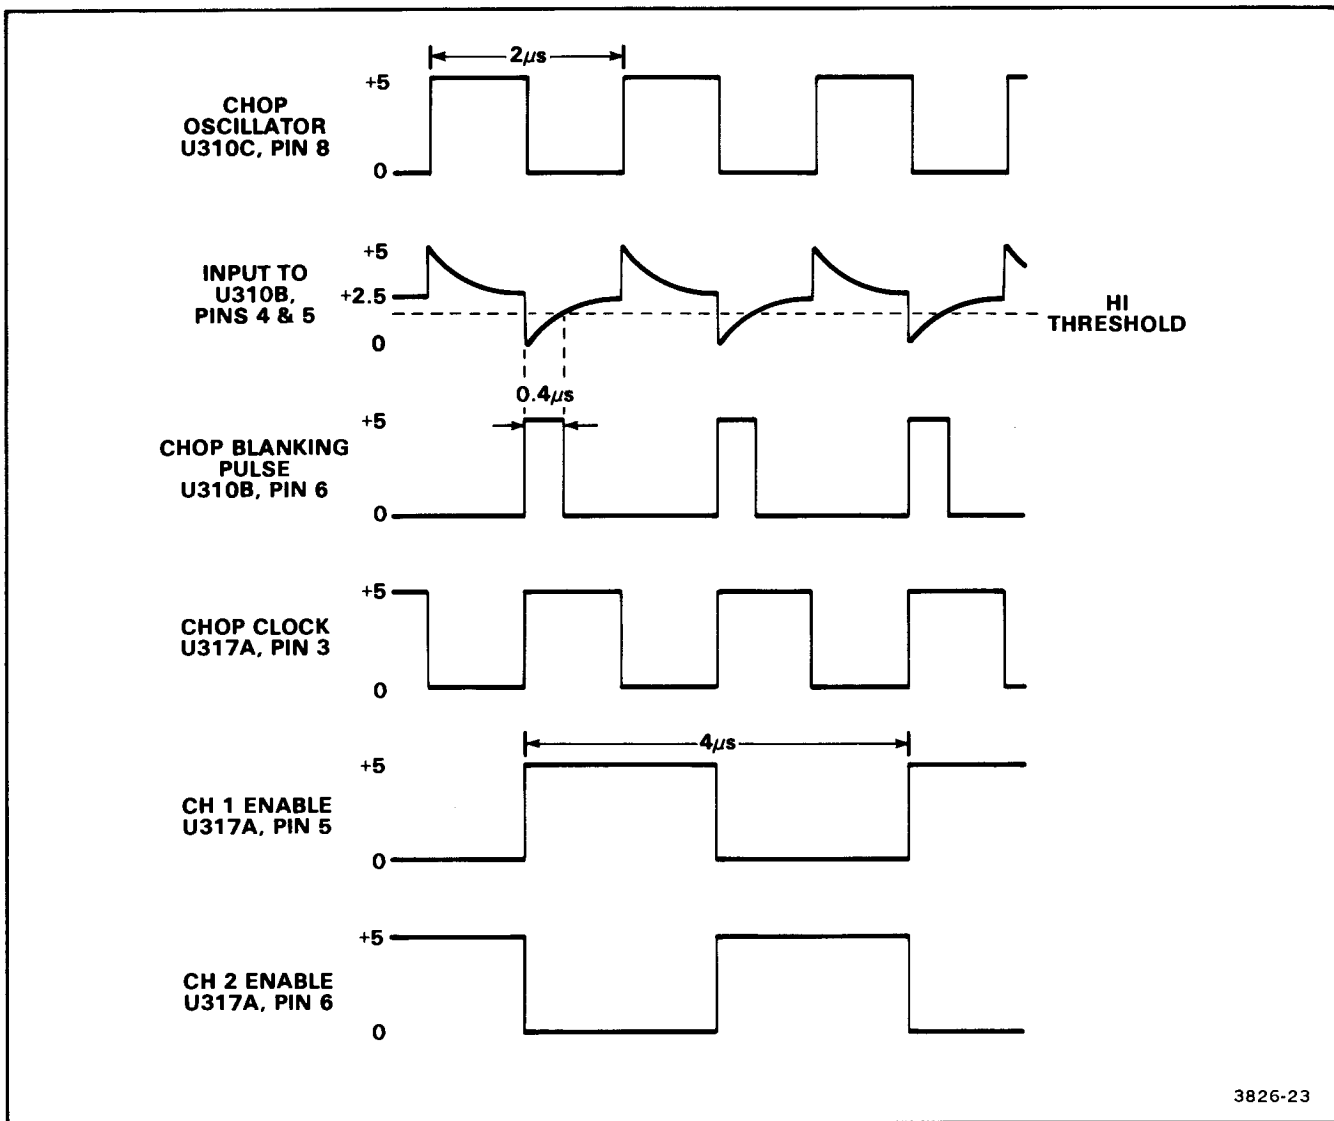

Figure 3-4. CHOP VERTICAL MODE waveforms.
**CHOP OSCILLATOR.** Setting S315 to CHOP enables the Chop Oscillator and the Chop Blanking circuit. Pins C and D of S315 are connected to place a LO logic level on the Set input (pin 10) of U317B. The Q output of U317B is set HI and the Chop Oscillator is allowed to run. A HI level is present on U310D pin 13 due to C308 being charged to the HI level on U310D pin 11. When pin 12 of U310D also goes HI, the output of U310D goes LO. Capacitor C308 now must discharge to the new dc level. As soon as the charge of C308 reaches the LO threshold level of U310D, the output at pin 11 switches HI again and C308 charges toward the HI logic level (see Figure 3-4).
the threshold level of U310B, and the output of U310B switches HI for a duration of about 0.4  $\mu\text{s}$  (see Figure 3-4) to produce the positive Chop Blanking pulse. The Chop Blanking pulse is fed to the Z-Axis Amplifier and is used to prevent display of the transitions when switching between vertical channels.